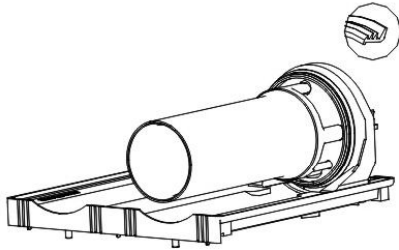

Figure 8
4. Fit bowl gasket around its seat (fig.8)